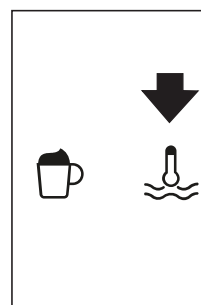

Fig. 27
- Press the  icon (B13) (Fig. 27).